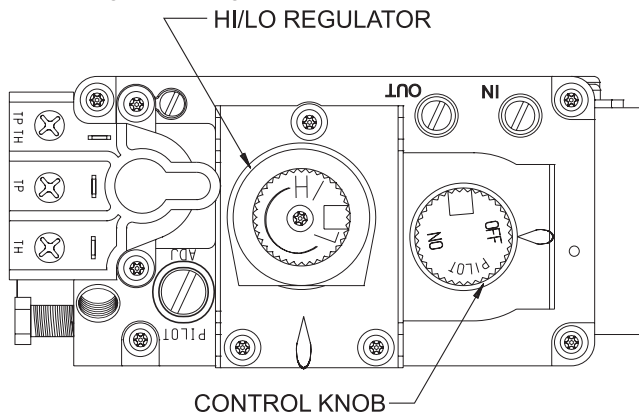

Figure 59
**NOTE:** The gas control valve allows you to increase or decrease the height of the main burner flame. The control valve has a pressure regulator with a knob as shown in **Figure 59**. Rotate the knob clockwise to "HI" to increase the flame height and counterclockwise to "LO" to decrease the flame height.